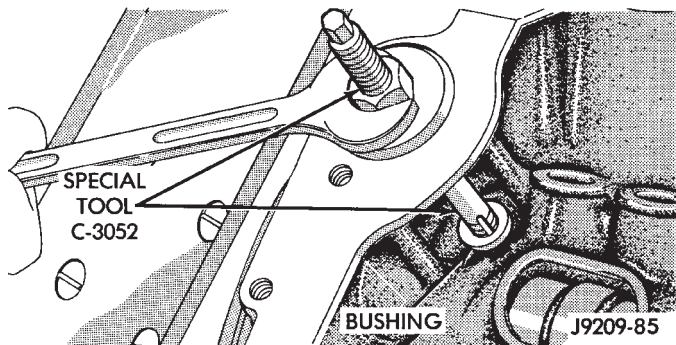

Fig. 14 Distributor Driveshaft Bushing Removal
(1) Insert Distributor Drive Shaft Bushing Puller Tool C-3052 into old bushing and thread down until a tight fit is obtained (Fig. 14).
(2) Hold puller screw and tighten puller nut until bushing is removed.